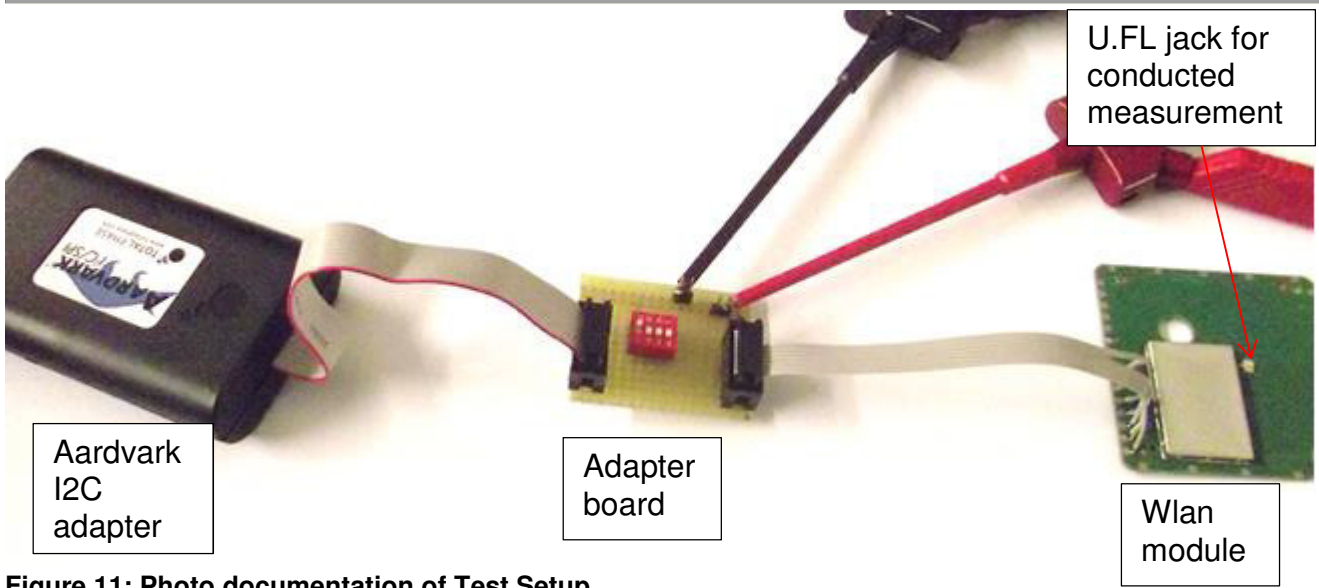

Figure 11: Photo documentation of Test Setup
- Connect the module via Aardvark adapter and adapter board to the Laptop (see Figure 11)